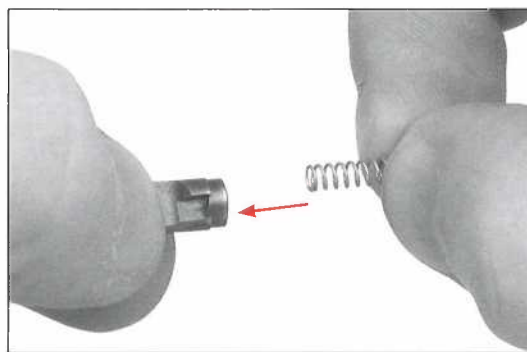

Fig. 204a
- If the spring should become separated from the safety, merely press either end back into its receptacle in the bottom of the safety. Compress the spring fully and turn it ¼ turn counter clockwise. When the spring is released, it should be reattached to the safety. If the spring is not firmly attached, it may fall into the recess and not provide proper spring tension to the safety. (Fig. 204a/204b)